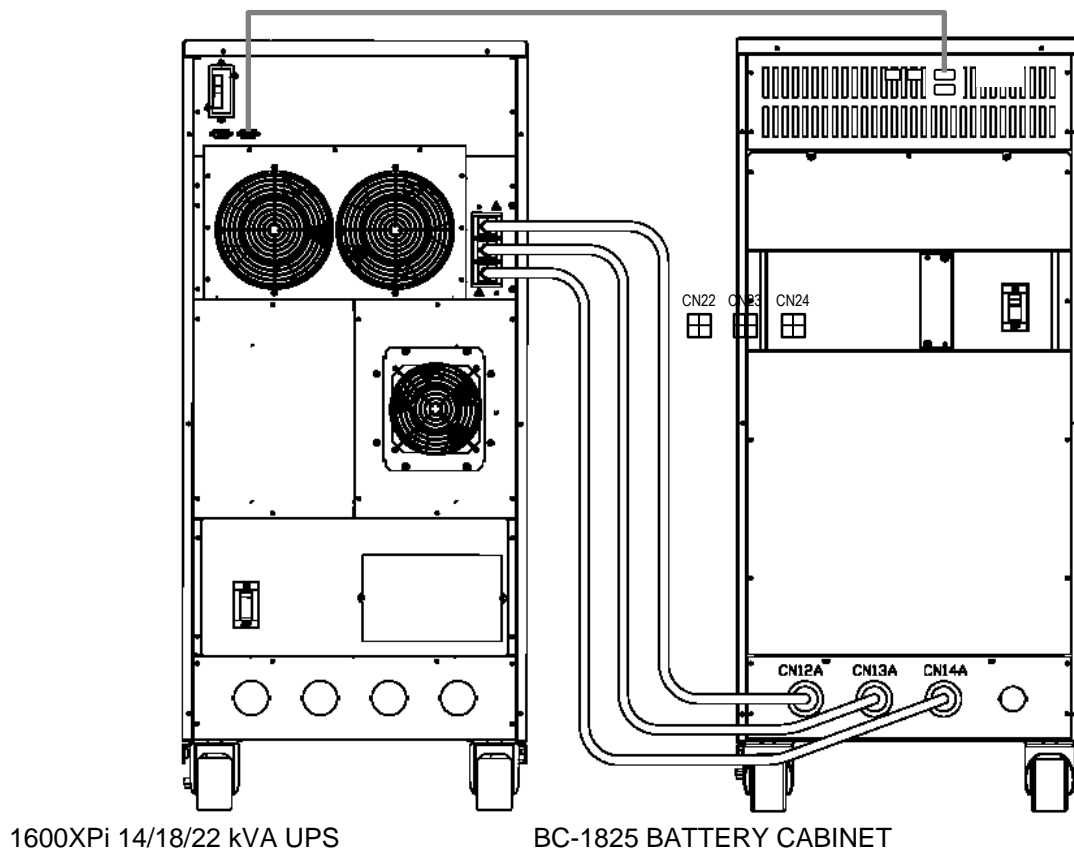

Figure 4 Cabling 14/18/22kVA UPS to Battery Cabinet
Connect up to two (2) battery cabinets to the UPS as shown in Figure 3 and Figure 4.